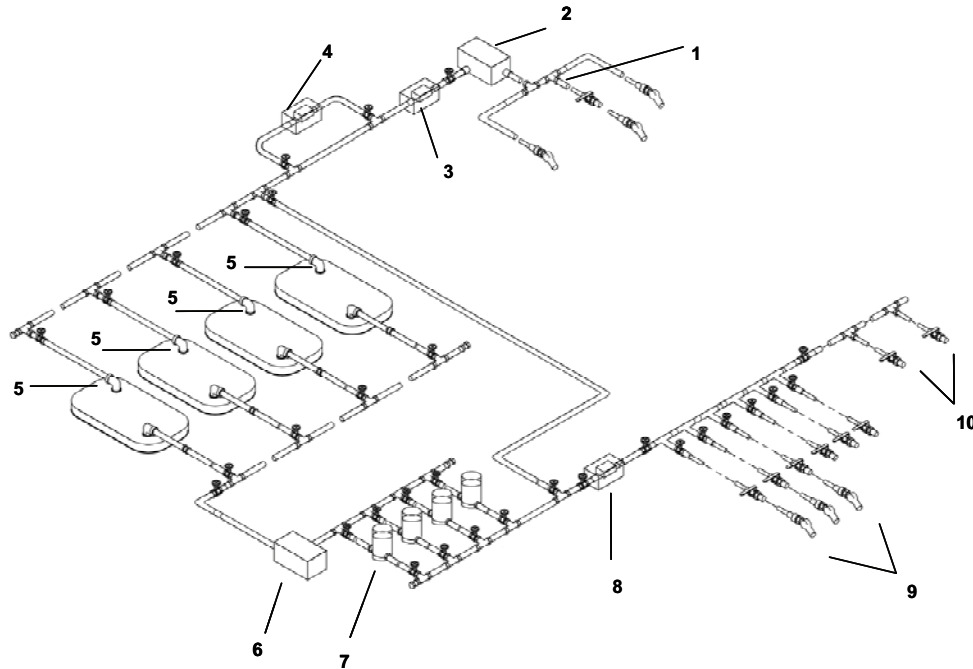

Figure 1. Operation of Fuel System Supply Point.
The FSSP is comprised of a number of separate major components to store and dispense fuel. The principles of operation of each of these major components and how they work within the system are defined in the following paragraphs. (Refer to Figure 1.)
The FSSP is used to store and dispense fuel to using units in the field. A typical layout of the 800K FSSP is shown in Figure 1. Fuel enters the FSSP through the receipt manifold (Figure 1, Item 1). The first of two 600 GPM pumps (Figure 1, Item 2) pushes the fuel through the flow meter assembly (Figure 1, Item 3), the fuel additive injection assembly (Figure 1, Item 4) and is moved into the collapsible fabric fuel tanks (Figure 1, Item 5). The operator selects the collapsible fabric fuel tank to be filled by opening and closing the appropriate gate valves. A second 600 GPM pump (Figure 1, Item 6) moves the fuel from the collapsible tanks (Figure 1, Item 5) through two or more of the four (4) filter separators (Figure 1, Item 7) and the flow meter assembly (Figure 1, Item 8). Fuel is issued through the quick acting valves and installed nozzles (Figure 1, Item 9) and the retail issue points (Figure 1, Item 10). Issue points to be used are selected by the operator by opening and closing appropriate gate valves.
A 600 GPM pump (Figure 1, Item 2) is used on the receiving side of the FSSP to move fuel into the collapsible fabric fuel tanks (Figure 1, Item 5). An identical 600 GPM pump (Figure 1, Item 6) is used on the delivery side of the FSSP to move the fuel from the tanks to the various types of dispensing units (Figure 1, Items 9 and 10).
Four 350 GPM filter-separators (Figure 1, Item 7) will be connected parallel on the delivery side of the system to remove entrained water and solid contaminants from fuel before it is dispensed into vehicles or containers.
Four 210K Collapsible fabric fuel tanks (Figure 1, Item 5) are used to store fuel received from fuel transporters or pipelines to be supplied to the dispensing units.